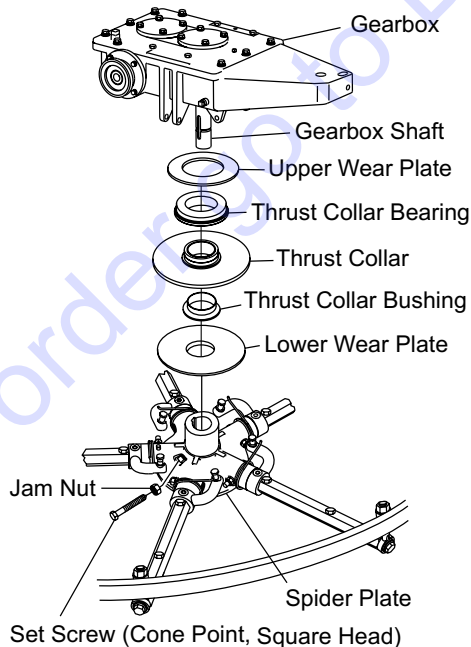

Figure 43. Spider/Gearbox Removal
1. Locate the cone point square head set screw and attached jam nut found on the side of the spider assembly (Figure 43).